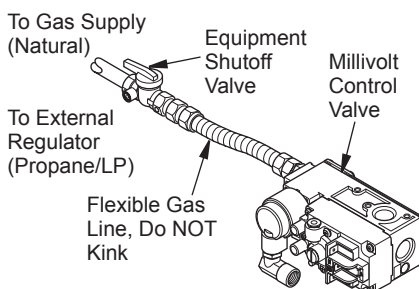

Figure 32 - Connecting/Disconnecting Gas Line to Millivolt Valve
1. Using a 5/16" hex socket wrench or nut-driver, connect or disconnect flexible gas line and control valve (see Figure 32).